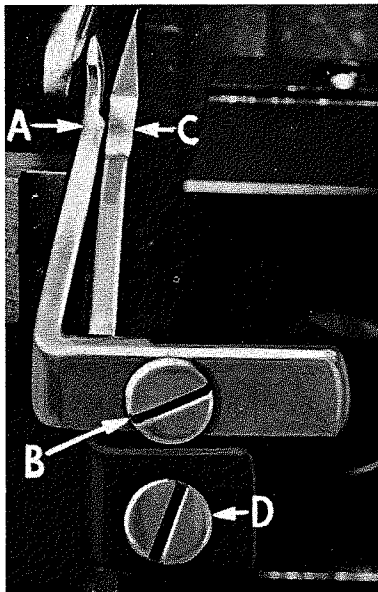

Fig. 5
Set rear needle guard (A, Fig. 5) as high as possible, without interfering with either lower looper or movement of lower knife holder; but still in position to deflect needle forward $.002 - .004$ inch. Screw (B) is used to set rear needle guard.
Assemble front needle guard (C, Fig. 5). When lower looper is springing needle off back guard, set front needle guard as close as possible to needle without touching. Screw (D) is used to adjust and set front needle guard. After this setting, make sure there is no interference between needle guard and main feed dog.